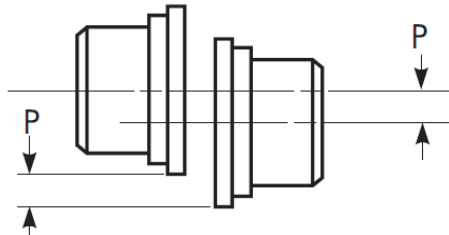

Figure 6 - Parallel misalignment
8.3. The “Parallel Misalignment” value (P) is the offset between the centers of the hubs, as shown in Figure 6.